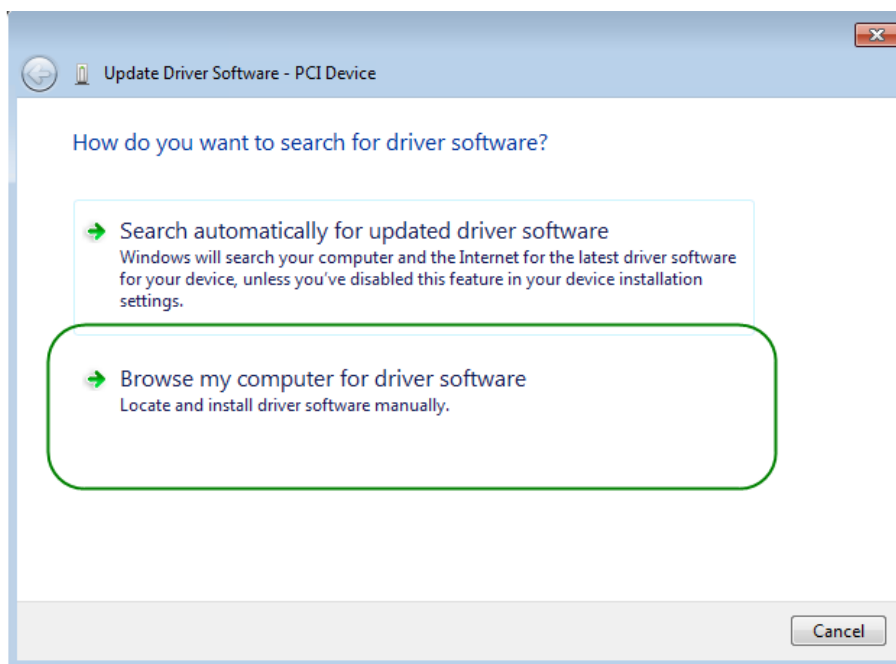

Figure 4-4 Dialog of Browse my computer for driver software
8. In the **How do you want to search for driver software** dialog, click **Browse my computer for driver software** item, as shown in **Figure 4-4**. Click “OK” and then “Exit” to close the installation program.